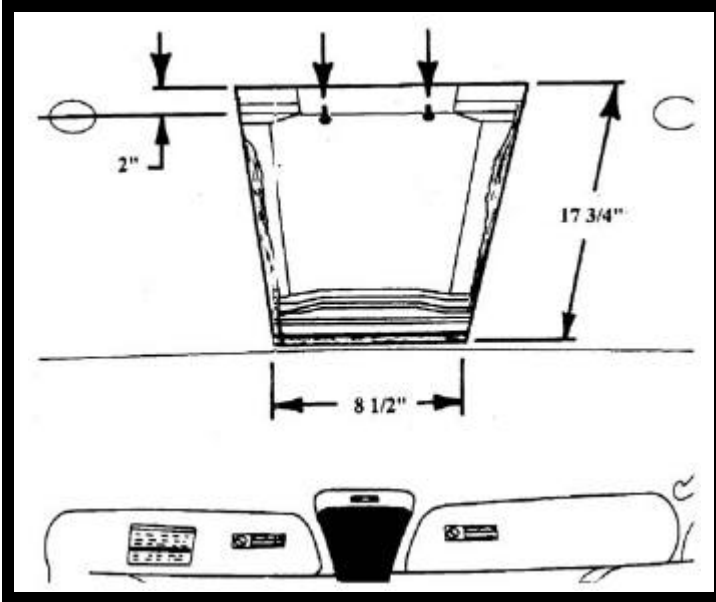

FIGURE 1
**Caution: Before cutting headliner material, check for wiring or other componentry above headliner. Cut only where indicated.** Make sure that the 8 1/2" cut is centered left to right in vehicle. See Figure 1.
2. Remove and retain (2) two O.E. screws which secures O.E. bracket to roof brace. See Fig. 1.